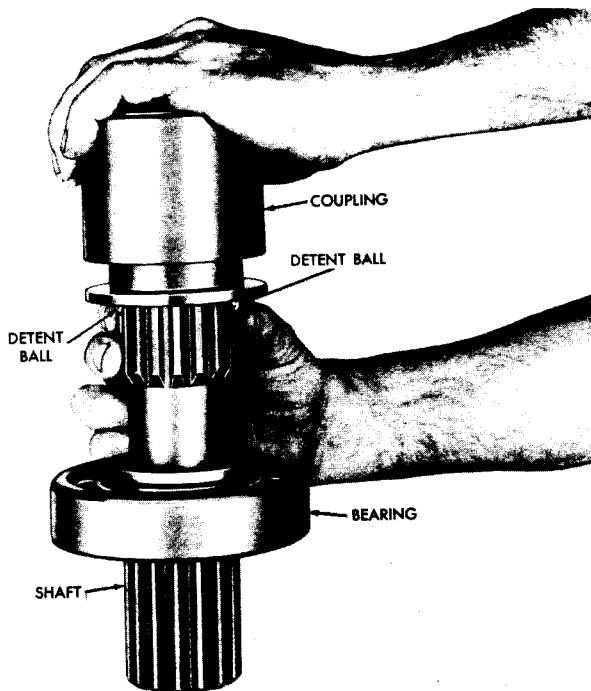

Fig. VII-6. Installing coupling onto front-output shaft ^{S2440}
(16) If the ball bearing assembly was removed from the front output shaft, press the bearing onto the shaft until it seats firmly against the shoulder on the shaft (fig. VII-6).
(17) On assemblies which do not include front output disconnect controls, install snap ring 18 (A, foldout 11) into the central inner groove of coupling 17.
(18) Install detent spring 21 (A, foldout 11) and detent balls 20 and 22 into the hole through the front output shaft (fig. VII-6).
(19) Install the coupling onto the shaft, pushing it onto the shaft until the detent balls engage the first (front) detent groove (fig. VII-6).